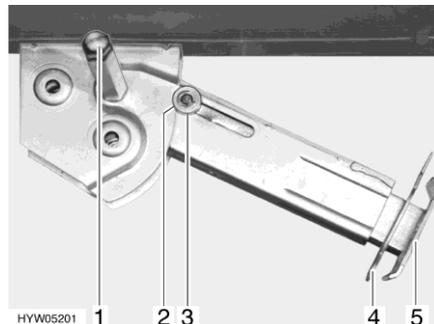

Fig. 40 Steady leg
- Place the socket spanner on the hexagon nut (Fig. 40,1) and rotate until the steady leg is in a perpendicular downward position.
- Remove the splint (Fig. 40,4) out of the support foot extension (Fig. 40,5).
- Place the socket spanner on the hexagon nut (Fig. 40,1) and rotate until the steady leg is clear of the ground.
- Push in the support foot extension (Fig. 40,5) and insert the splint (Fig. 40,4) in the drilled hole in the support foot extension.
- Rotate the hexagonal nut (Fig. 40,1) with the socket spanner until the steady leg has swung upwards and the guide disc (Fig. 40,3) has completely retracted into the notch (Fig. 40,2).